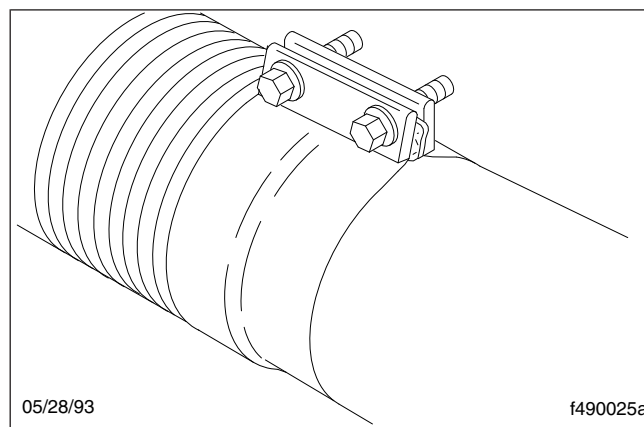

Fig. 8, Donaldson SealClamp Wide-Band Exhaust Clamp
8. Check for leakage at all wide-band exhaust clamps. See **Fig. 8**.